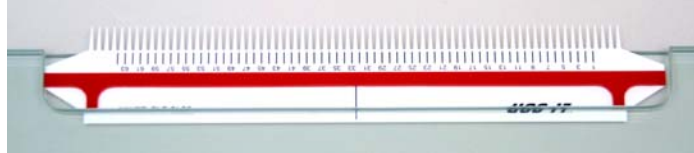

Figure 2-8. Center the comb in the notch and insert the sharktooth comb upside down until the plastic depth gauge rests on top of the notch.
6. Insert the comb. Figures 2-8 and 2-9 show how to insert the mylar sharktooth and rectangular tooth combs after pouring the gel. Instructions for inserting paper combs are given in the Appendices (Section 5). The sharktooth comb is inserted upside down during polymerization to make a trough which forms the base of the wells, and is then inverted before loading the samples.